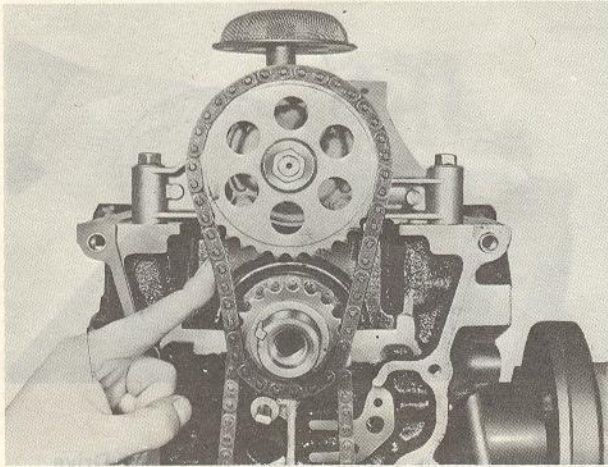

Fig. 1-53 Checking oil pump chain for tension
6. Check the slack of the drive chain by pressing a finger as shown in Fig. 1-53.